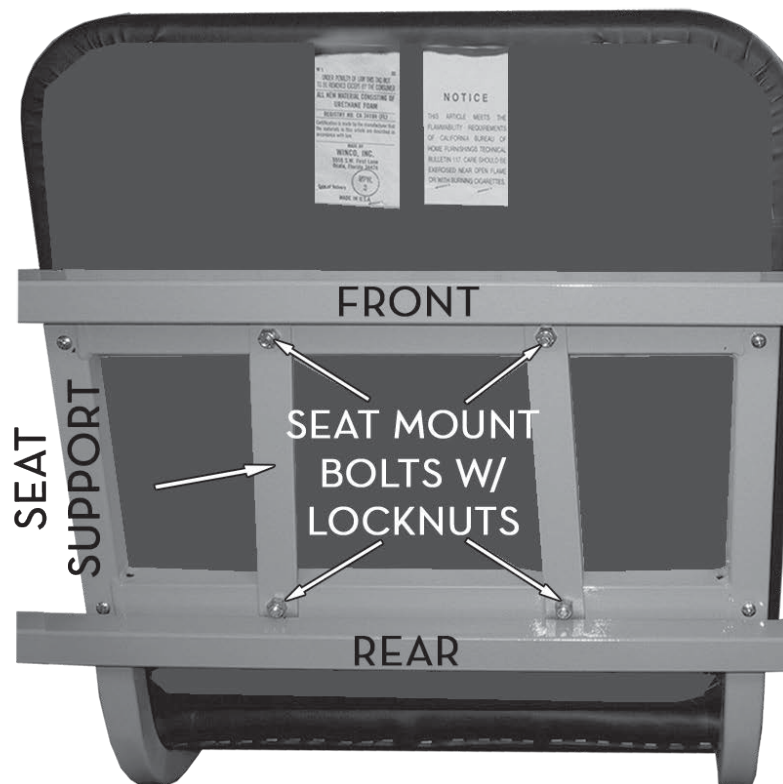

FIG. 1
3. Install **four (4) lock nuts** to the screws on the **Seat Assembly** and completely tighten with $\frac{7}{16}$ " wrench (**FIG. 1**).
1. If the **Arm Assembly** has not yet been installed, insert it into the **Receiving Tube** on the **Seat Frame Assembly (FIG. 1)**. This applies to any style arm assembly.